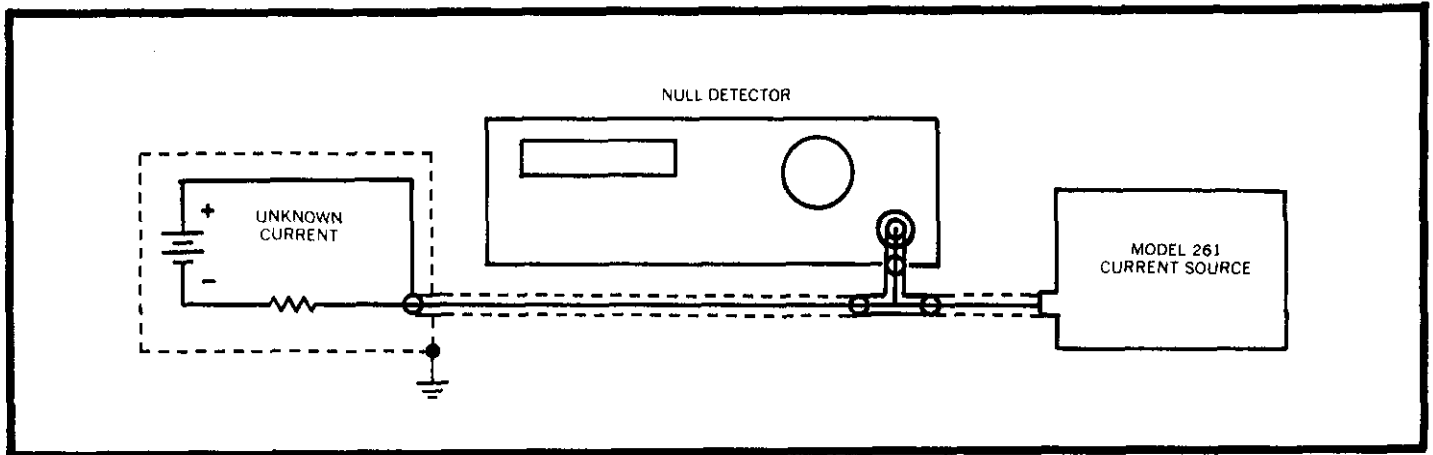

FIGURE 5. Galvanometric Current Measurements.
2. Connect the Model 615 with an accurate reference current source as shown in Figure 5. Keithley Models 225 or 261 may be conveniently used as a bucking or zero suppression current source for this purpose.